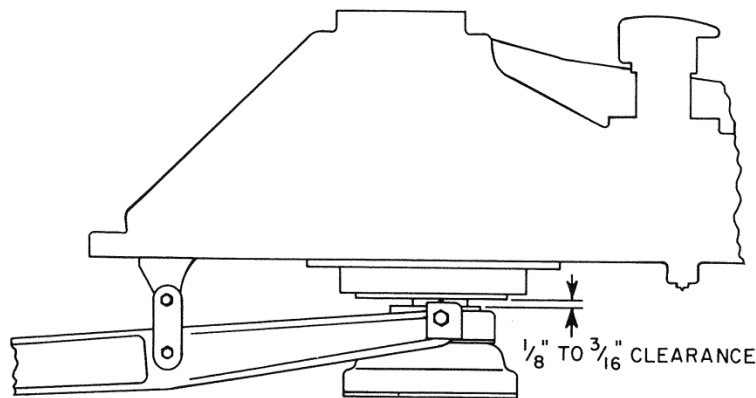

Figure 19. Collective Bearing Housing Spacer and Swashplate Mount Flange Clearance
- 6.5.1.2 Check that there is 1/8 to 3/16 inch clearance between the collective bearing housing spacer and the swashplate mount flange (Figure 19).